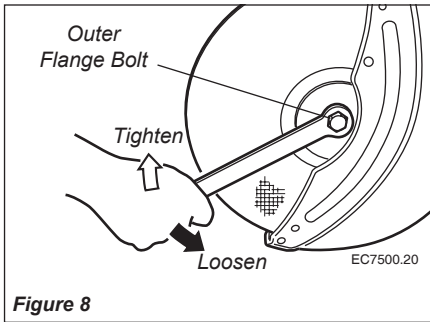

Figure 8
4. Loosen bolt with the wrench and remove bolt and outer flange. See Figure 8.